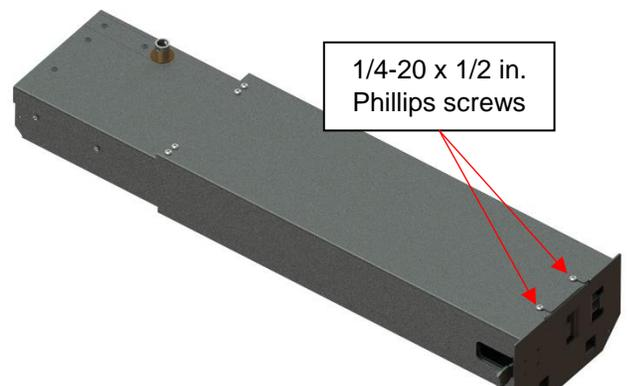

Figure 63
- 2) Carefully lay the post assembly on the ground on a clean surface that is free of any debris, then remove the two 1/4-20x1/2in. Phillips screws. (Figure 63)
- 7) Reinstall the 1/4-20 x 1/2in. Phillips screws removed in step 2, this will hold the brackets in place while remaining pieces are installed. (Figure 63)